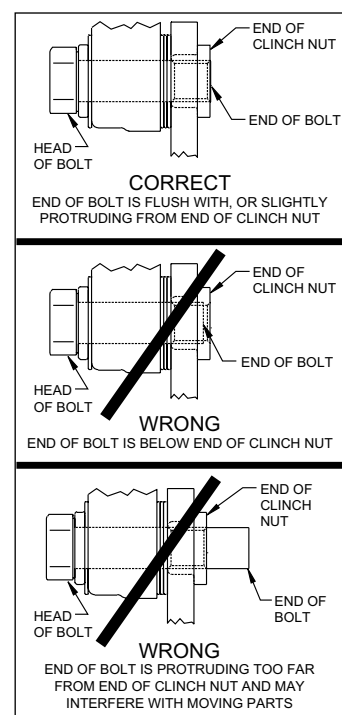

Figure 3. Clinch Nut Engagement Diagram
**CAUTION:** All mounting bolts must fully engage clinch nuts. Be sure to check that all bolts are either flush or protruding through flanged side of clinch nut after shimming, Figure 3.
of the caliper. The rotor should be centered in the caliper, Photo 5. If not, adjust by adding or subtracting shims between the bracket and the caliper. Always use the same amount of shims on each of the two mounting bolts. **NOTE:** The end of each bolt must be flush with or slightly protruding from the head of the clinch nut, as shown in Figure 3. If necessary place spare shims between washer (17) and caliper mounting ear to achieve the proper clinch nut engagement. Once the caliper alignment and clinch nut engagement are correct, remove the bolts one at a time, apply red Loctite® 271 to bolt threads, and torque to 40 ft-lb.